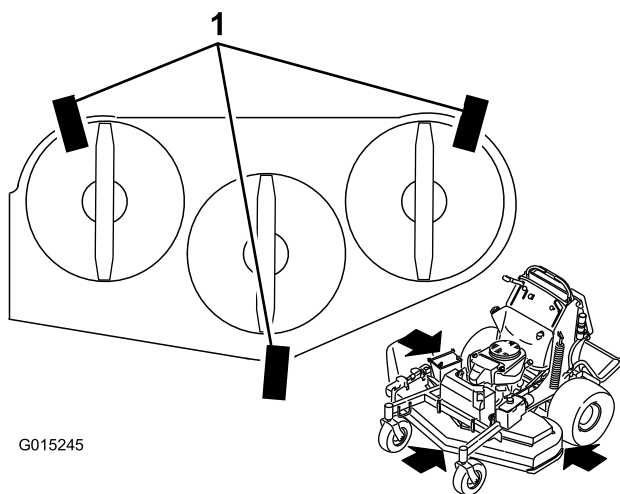

Figure 87
1. Place 3 pieces of 2x4 wood under the mower deck as shown in Figure 87. Stand the 2x4's on the 4 inch part.